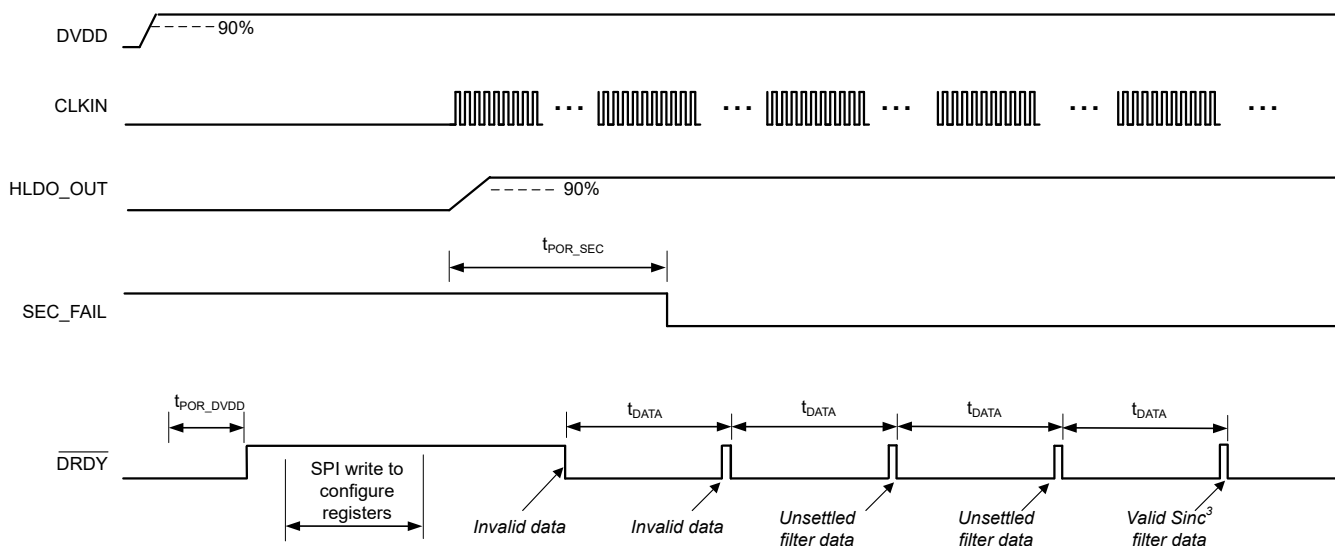
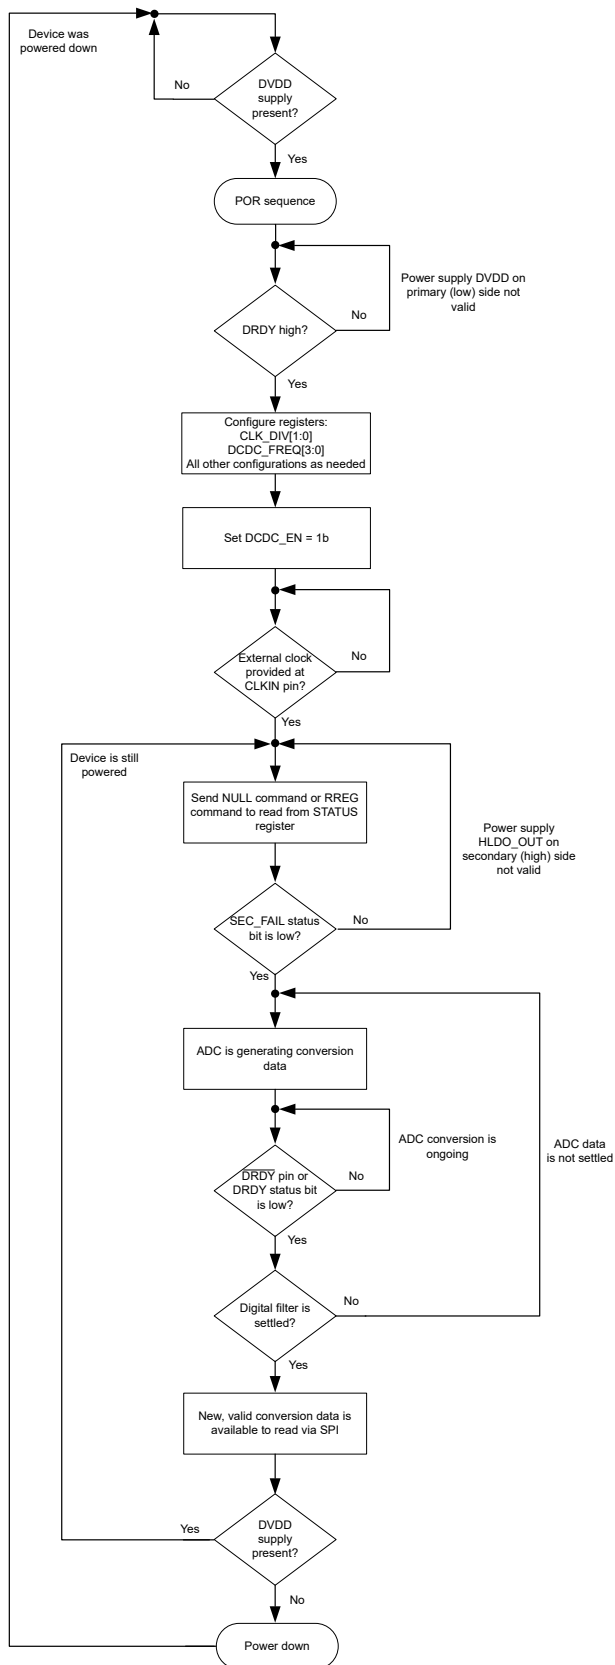

Figure 8-18. Start-Up Behavior at Power-Up and Settling Times, OSR = 1024
図 8-19. Flow Diagram for Start-Up Procedure at Power-Up
A recommended procedure for powering up the AMC131M03-Q1 is described in this section. Figure 8-18 depicts a timing diagram for the device behavior when this recommended sequence is used. Figure 8-19 provides a flow diagram that displays the recommended sequence in a graphical form.
- The high-to-low transition of $\overline{\text{DRDY}}$ indicates that new conversion data are available. As given in Figure 8-18, ADC data are only valid if the SEC_FAIL reads 0b during the conversion period. The first two conversion results shown in Figure 8-18, represent invalid data.
- When the ADC generates valid data, the digital filter must settle, as described in the SINC³ and SINC³ + SINC¹ Filter section. Two subsequent conversion results illustrated in Figure 8-18 are unsettled (assuming OSR equals 1024), and the last conversion result shown provides valid and settled data.
In Figure 8-18, $t_{\text{POR_SEC}}$ is the time from enabling the DC/DC converter to the first falling edge of the SEC_FAIL bit, which indicates that the secondary power supply at the HLDO_OUT pin is stable. $t_{\text{POR_DVDD}}$ is the time from DVDD supply at 90% to $\overline{\text{DRDY}}$ first rising edge.